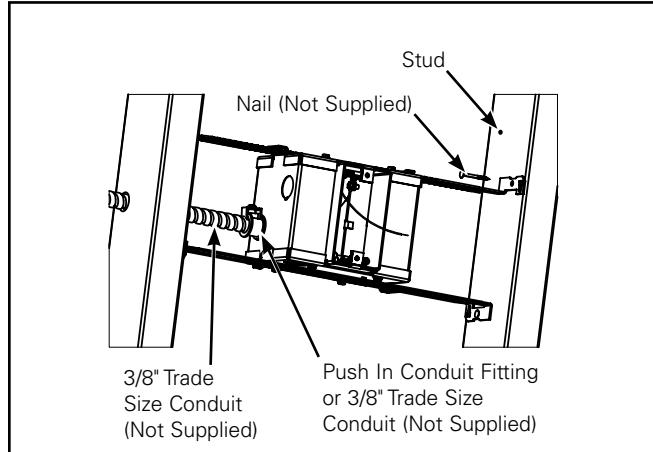

Figure 2.
- Nail adjustable hanger bars to studs and adjust box to desired location (Figure 2).
- Install 3/8" trade size push in type conduit fitting and conduit as shown (Figure 2).